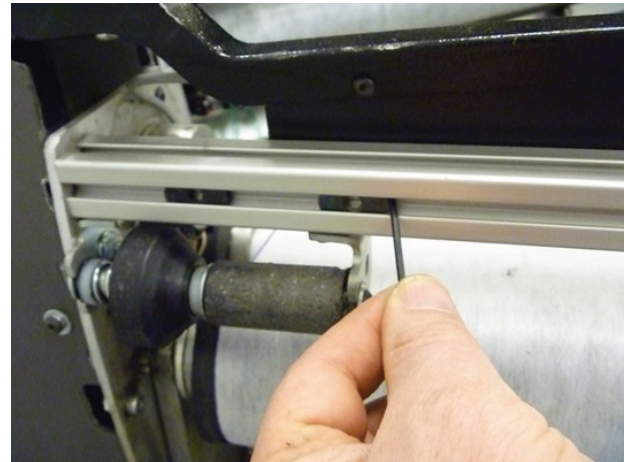

Figure 9
- Slide two of the T-nuts to the 10pin side of the support rail. Refer to *Figure 9*.